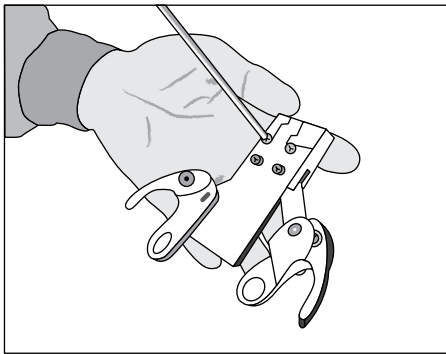

Figure 15
3. Loosen the set screw with a 3 mm Allen wrench to unlock the adjusting rod. (See Figure 15)